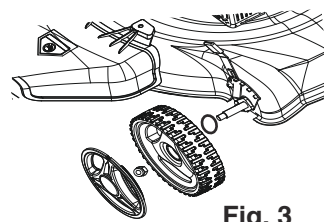

Fig. 3
1. Install the washer wheels and nuts onto the bolts. Fig. 3